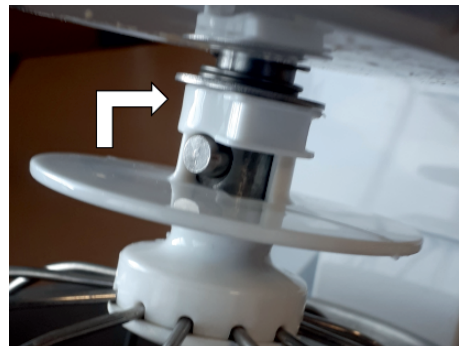

Fig. 4
3. Insert the desired attachment directly, until it lock into correct position – see figures 4 and 5.